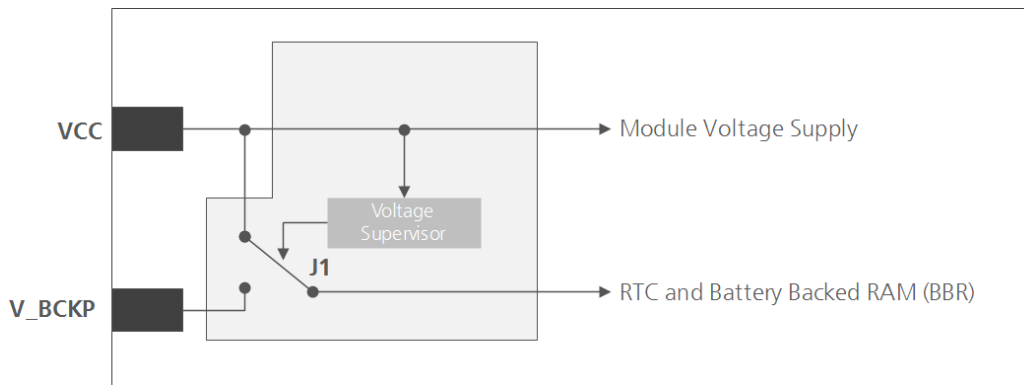

Figure 1: Backup battery and voltage (for exact pin orientation, see the corresponding product data sheet)
-  As long as power is supplied to the NEO-8Q and NEO-M8 series modules through the **VCC** pin, the backup battery is disconnected from the RTC and the BBR to avoid unnecessary battery drain (see Figure 1). In this case, **VCC** supplies power to the RTC and BBR.